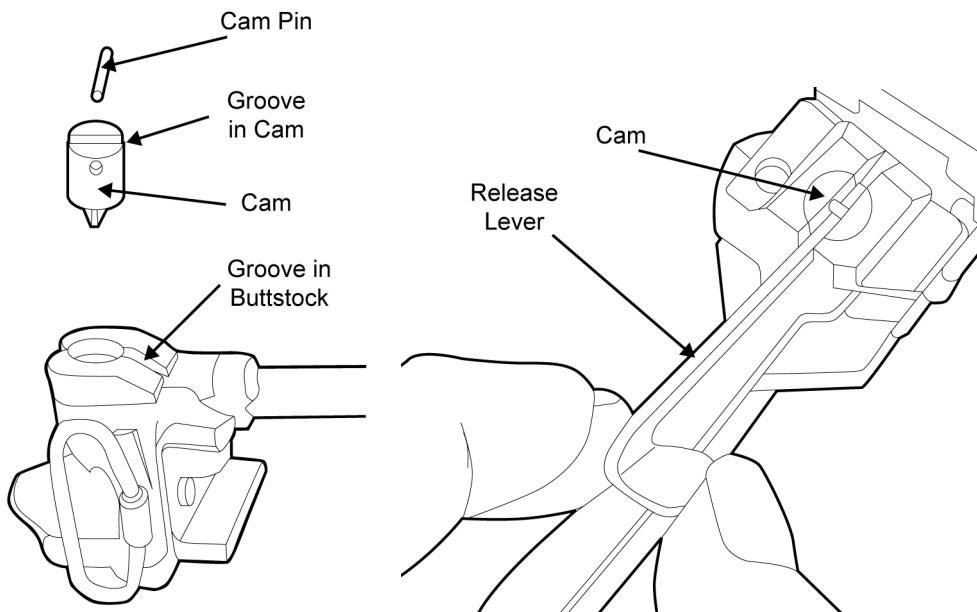

Figure 51. Installing the Cam Pin, Cam, and Release Lever.
a. If removed, insert the cam pin into the cam, ensuring it is flush. Install the cam, flat end facing out, into the side folding buttstock. Ensure that the groove in the cam aligns with the groove in the side folding buttstock. Insert the release lever into the aligned grooves, ensuring that it is under the cam pin. Refer to Figure 51.